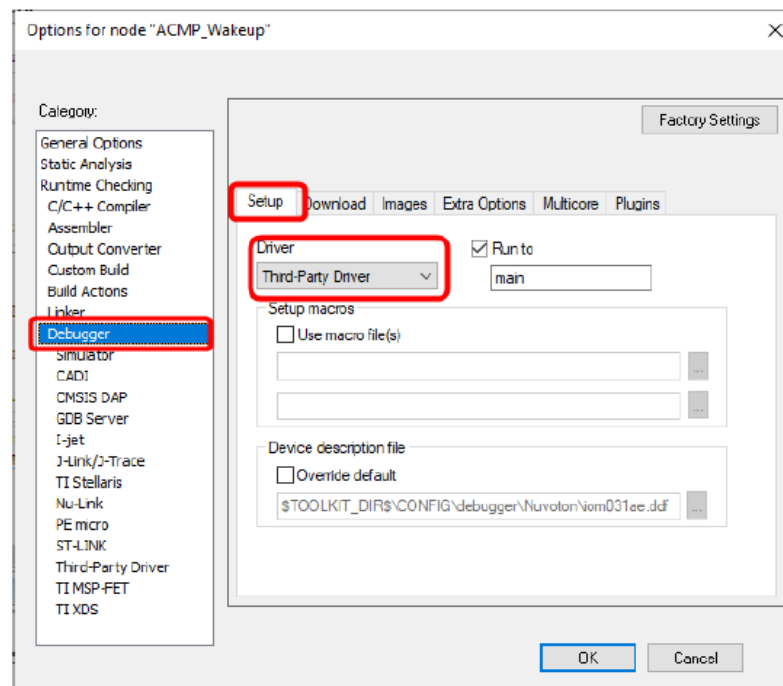

Figure 4-16 Set IAR EWARM as Third-Party Driver for Debugger & Programmer
Step 4: In the Setup tab of the Debugger page, select Third-Party Driver as the driver, as shown in Figure 4-16.